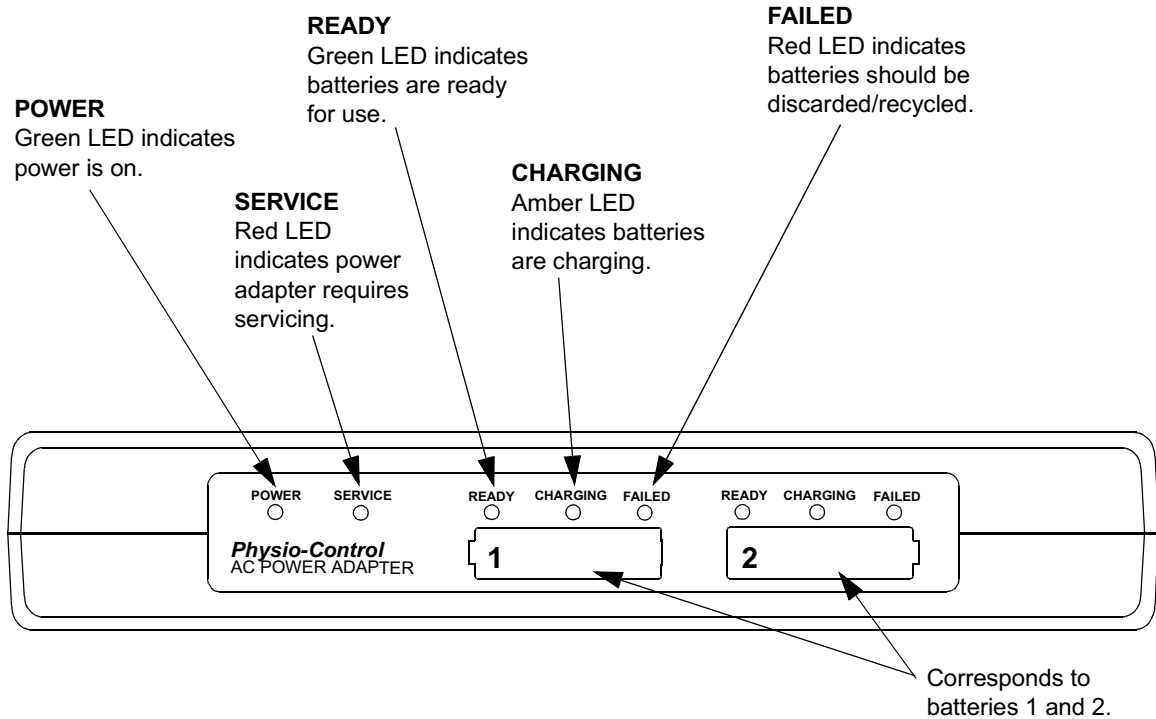
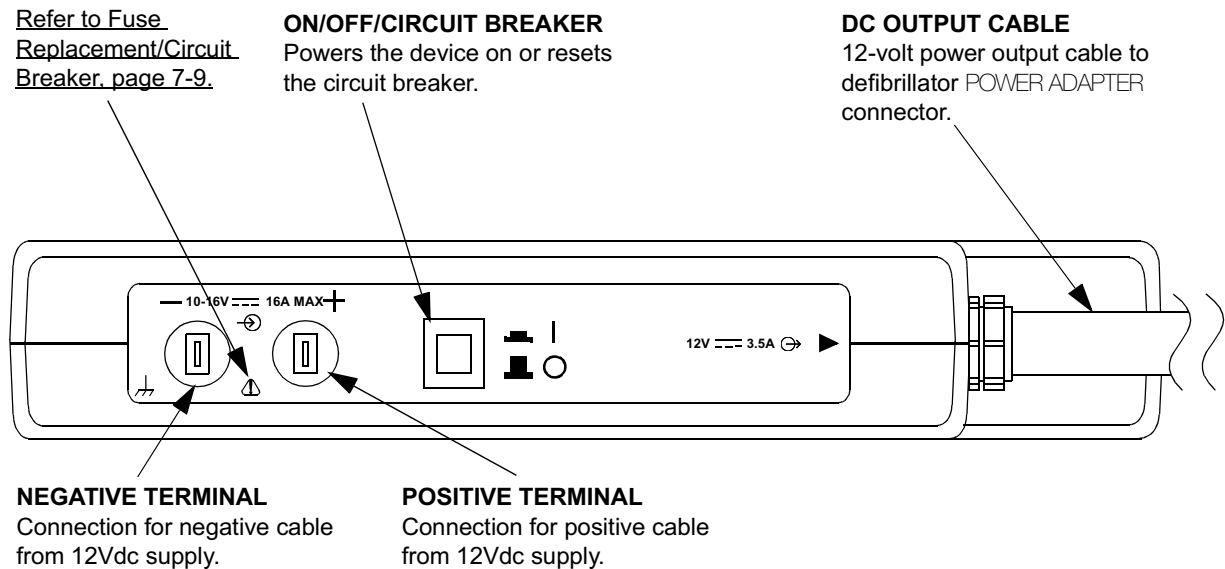

Figure 7-2 Power Adapter Front Panel
Figure 7-5 Rear View of DC Power Adapter
Figure 7-2 through Figure 7-5 show the controls, indicators, and connectors for the AC Power Adapter and DC Power Adapter.
- 2 Press the power switch to the ON position. (Refer to Figure 7-5.)